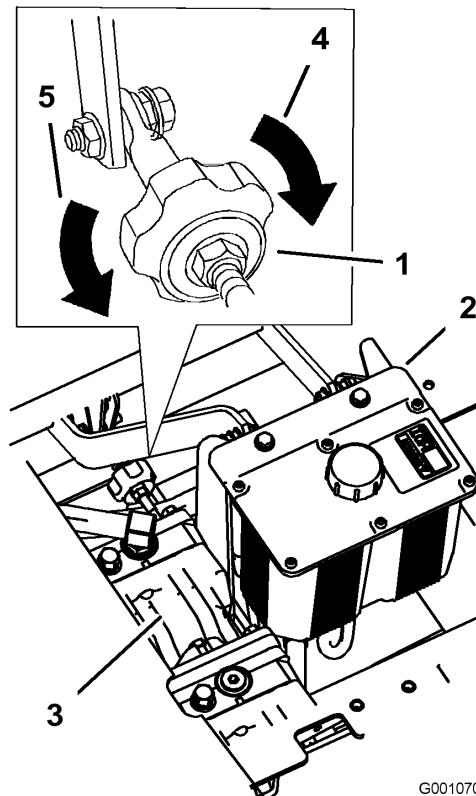

Figure 68
2. Adjust the pump rod length by rotating the knob, in the appropriate direction, until the wheel is still or slightly creeping in reverse (Figure 68).